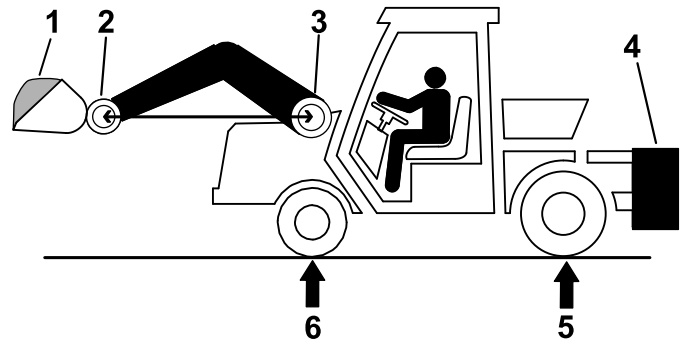

Figure 32
- Put a full load in the bucket, lift the bucket to the furthest position forward as shown in Figure 32.
- At a scale, measure the gross vehicle weight (GVW) at the front and rear axle, with the loader raised so that the bucket pivot pin is as high as the boom pivot pin (Figure 32).
**Note:** If R is **less** than required rear axle weight (RRAW), no ballast is required (Figure 32).